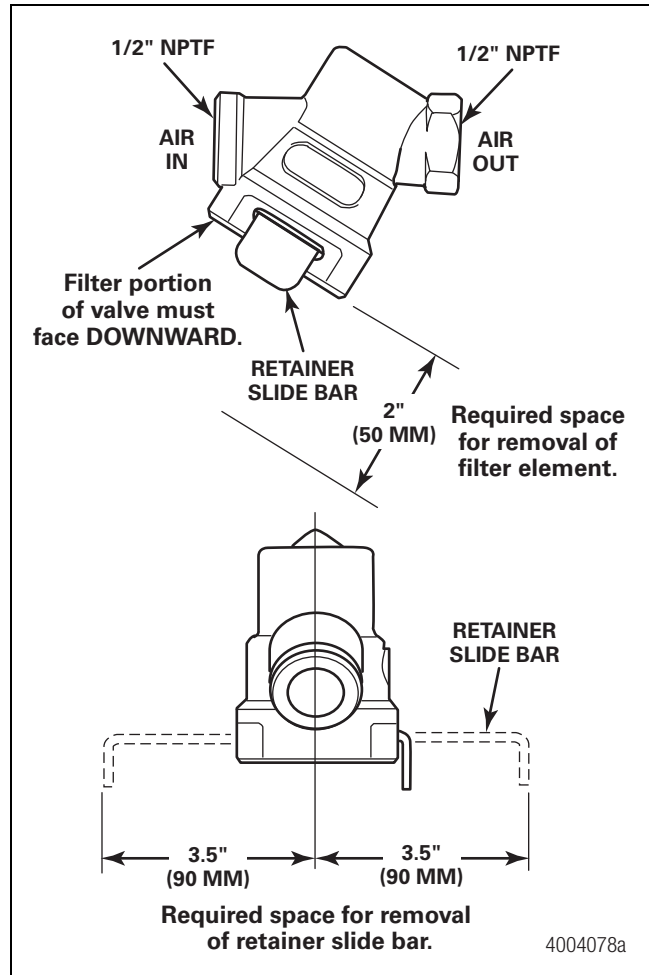

Figure 15
- The in-line filter valve must be installed with the filter portion facing DOWNWARD so that the air line ports are horizontal. Figure 15.
- Allow sufficient clearance for servicing the valve. A minimum of 3.5-inches (90 mm) to release the retainer slide bar and a minimum of two-inches (50 mm) to allow for the removal and installation of the internal components is required. Figure 15.